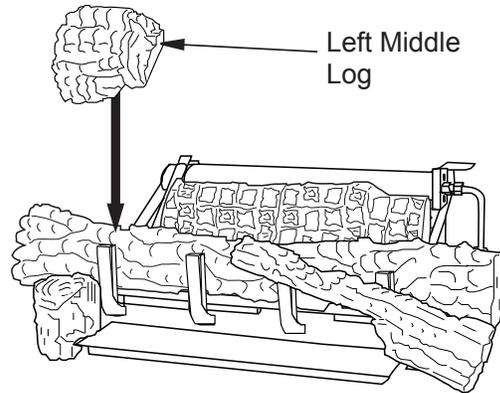

Figure 32 - Installing Left Middle Log
- The left middle log has a groove on the bottom to sit on the chassis and has to sit on the tab on the back of the left front log as shown in **Figure 32**.